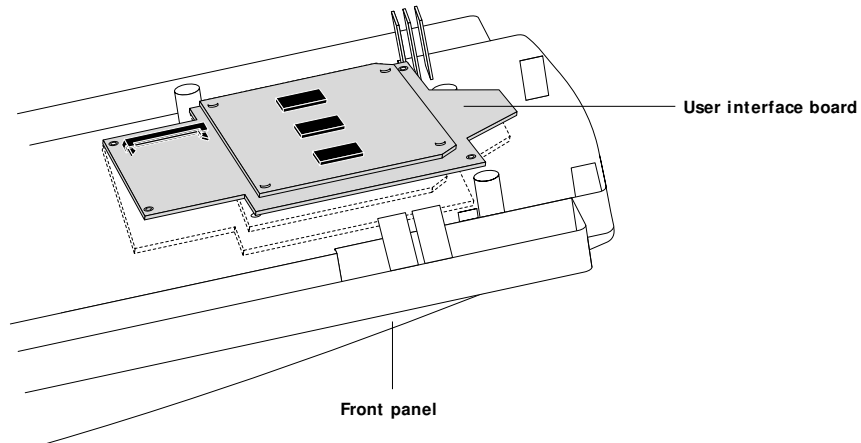

FIGURE 4-17 Removing the user interface board
7. While pushing outward on the snap tabs, lift up one side of the user interface board and slide it out of the hooks (see Figure 4-17). Place the board in an antistatic bag.
1. Place the user interface board in the front panel at an angle so that the edge of the board fits under the front panel hooks (see Figure 4-17).